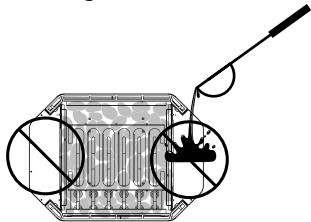

Figure 14
**Do not pour water into the air flue or ventilation openings of the sauna climate device (Figure 14)!**